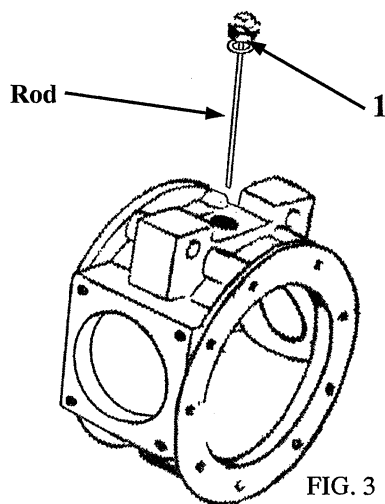

FIG. 3
- Check oil level in the gearbox. This is carried out by unscrewing the plug located on top of the box (1 of fig. 3) and by checking the oil level using the rod with which the plug itself is equipped. The correct oil level is indicated in the rod itself.